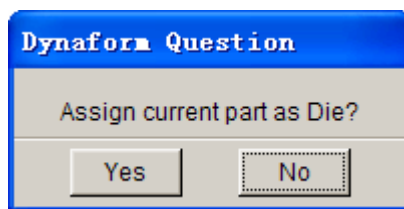

Figure 15 Dynaform Question dialog box
2. A **Dynaform Question** dialog box illustrated in Figure 15 is displayed.